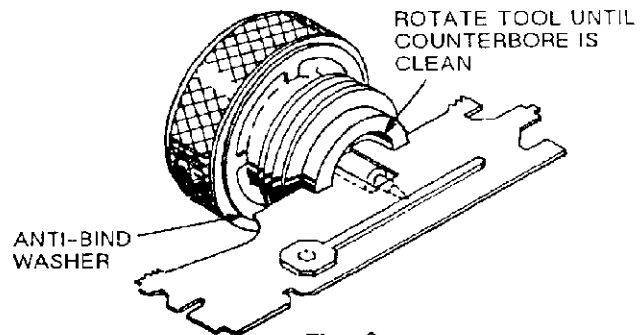

Fig. 2
2. Dislodge compressed deposits by positioning cleaning tool against counterbore and piercer pin as shown in Figure 2. Rotate tool until all surfaces are clean.